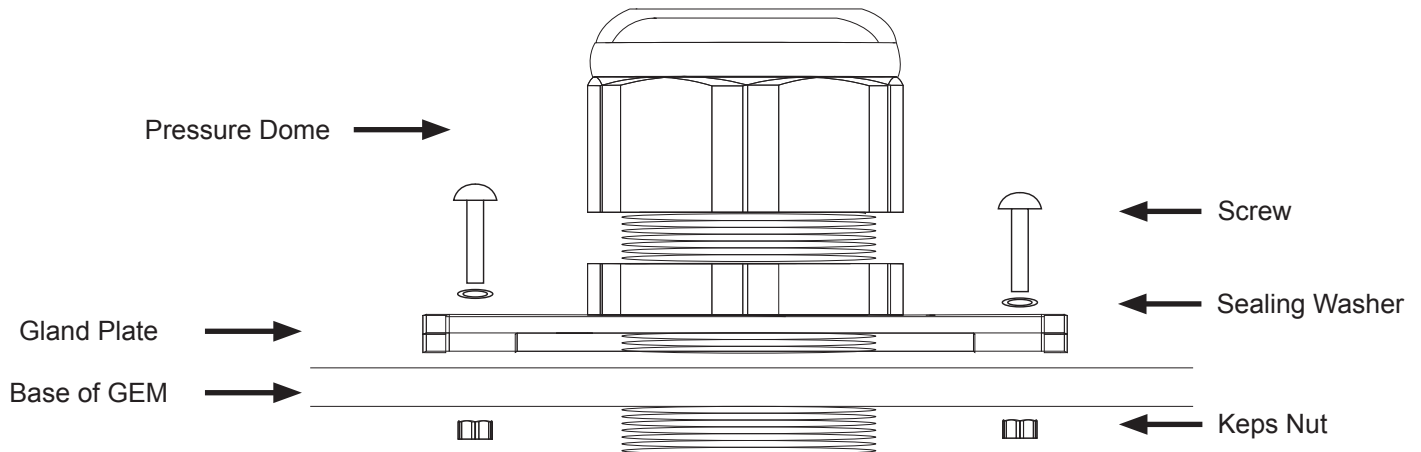

Fig. 4-1, DC Gasket Assembly
2. Knock out the 2" pass through and the (4) bolting holes in the bottom of the GEM.
5. Assemble screws and sealing washers (See Fig. 4-1). Secure the screws with nuts on the opposite side of the assembly.